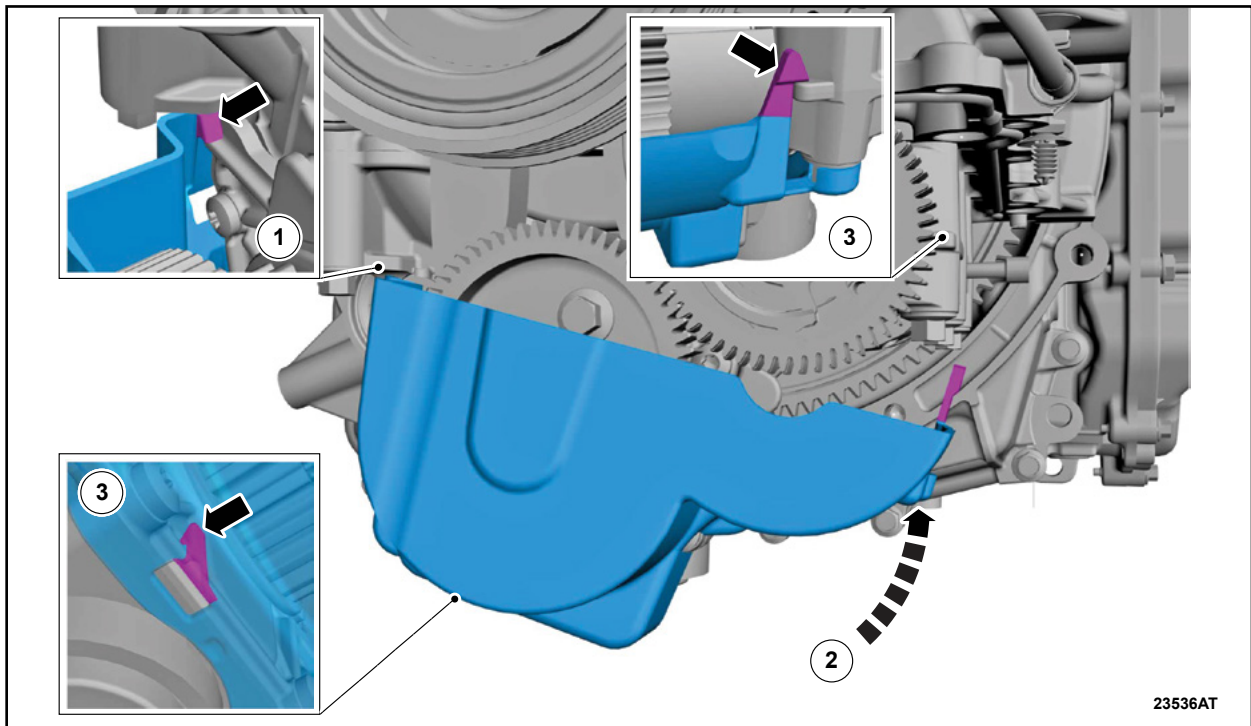

FIGURE 50
62. Install the oil pump cover. See Figure 50.